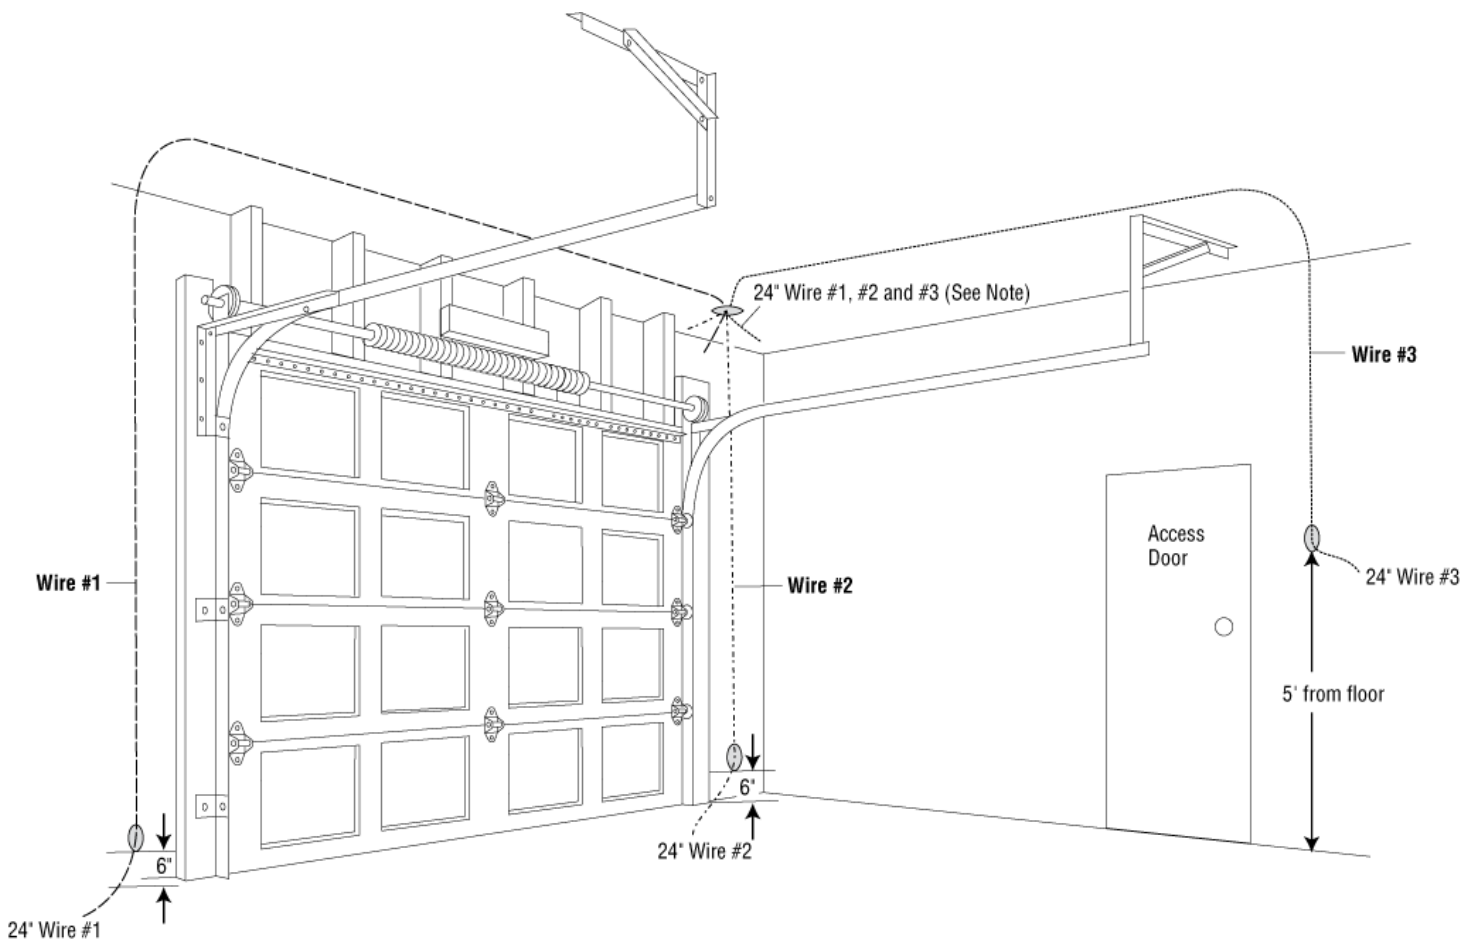

Figure 1
Instructions: Header-Mounted Operator (refer to Figure 1)
*Note: Figure 1 provides details for a right-mounted operator.